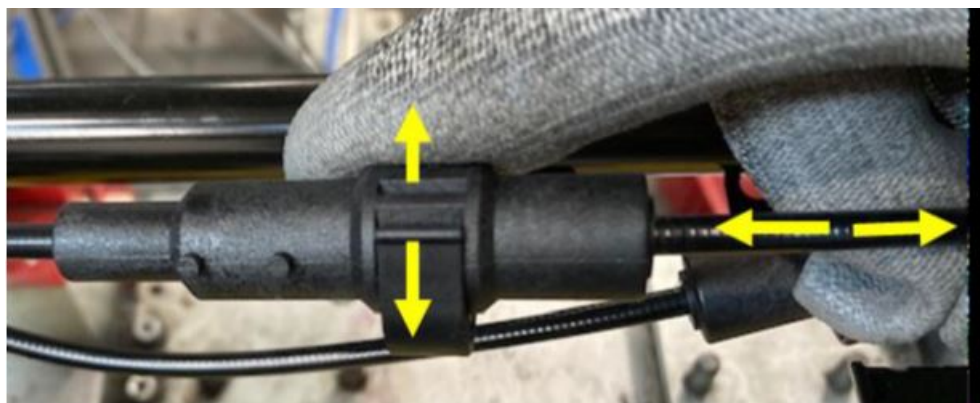

Fig. 7
14. Unlock the cable adjuster and push/pull on the cable to adjust the cable stick out (5 to 8 mm). Make sure once the adjustment is completed, **make sure the adjuster is fully locked** (Fig. 7) .